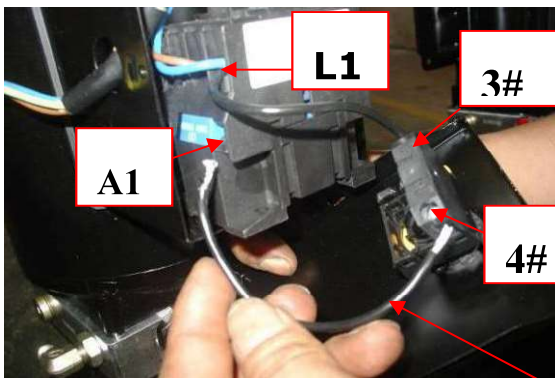
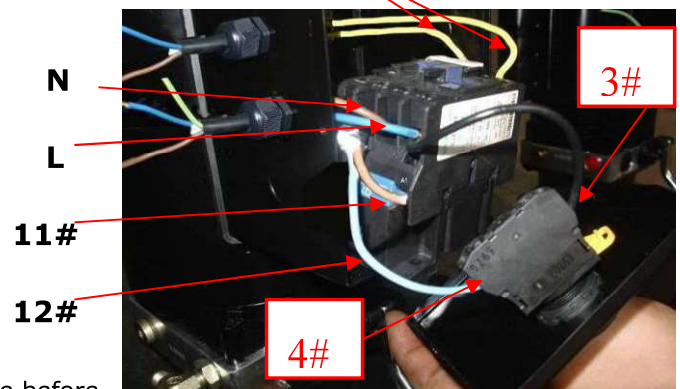

Fig. 39
Fig.40
4. Connecting the limit switch: Removing the wire of connecting terminal **4#** of control button and **A1** of AC contactor firstly (See Fig. 39), then connecting wire **12#** (brown wire) of limit switch with terminal **4#** of control button and connecting wire **11#** (blue wire) with terminals **A1** of AC contactor respectively. Connecting the earth wire of limit switch to the earth wire terminal on the motor. (See Fig.40).